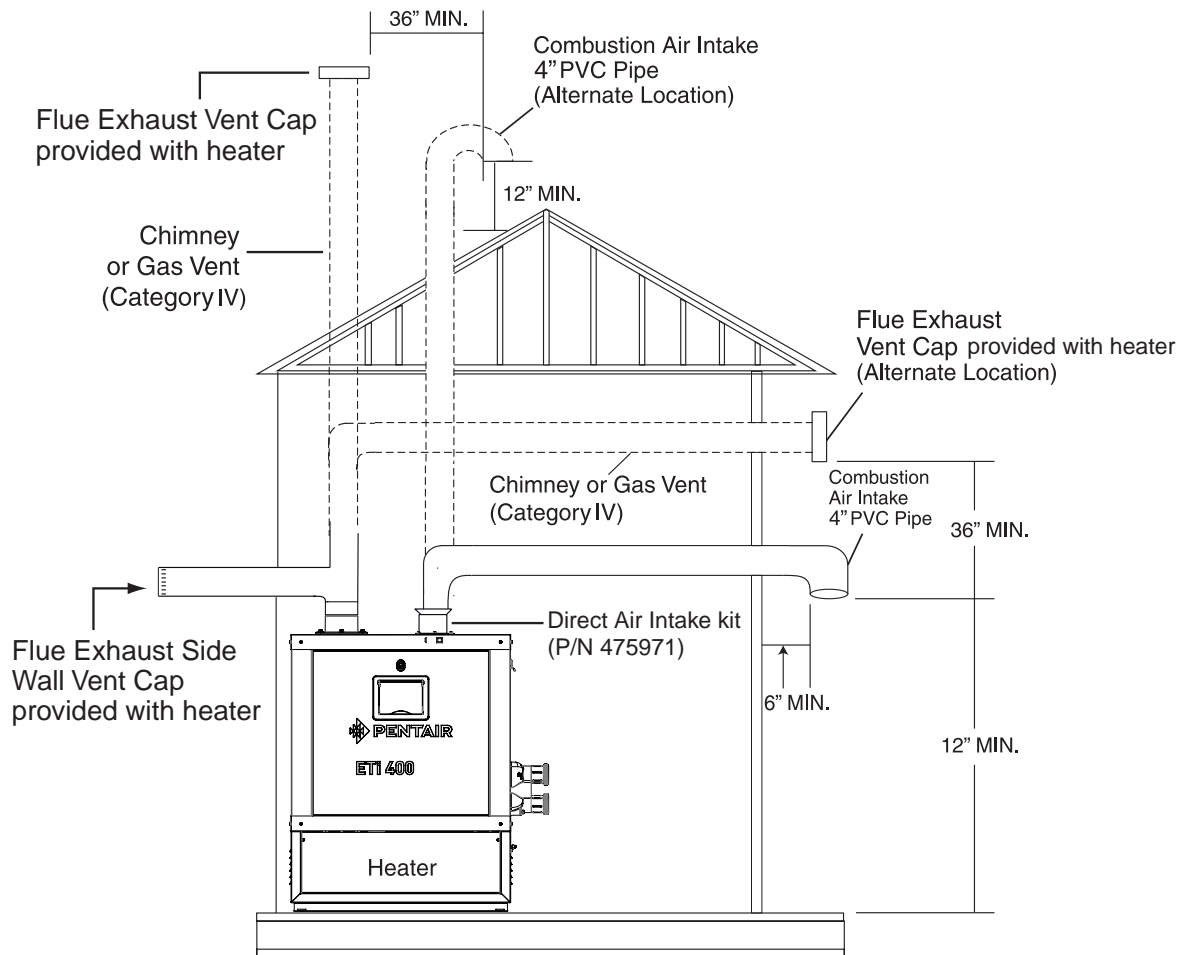
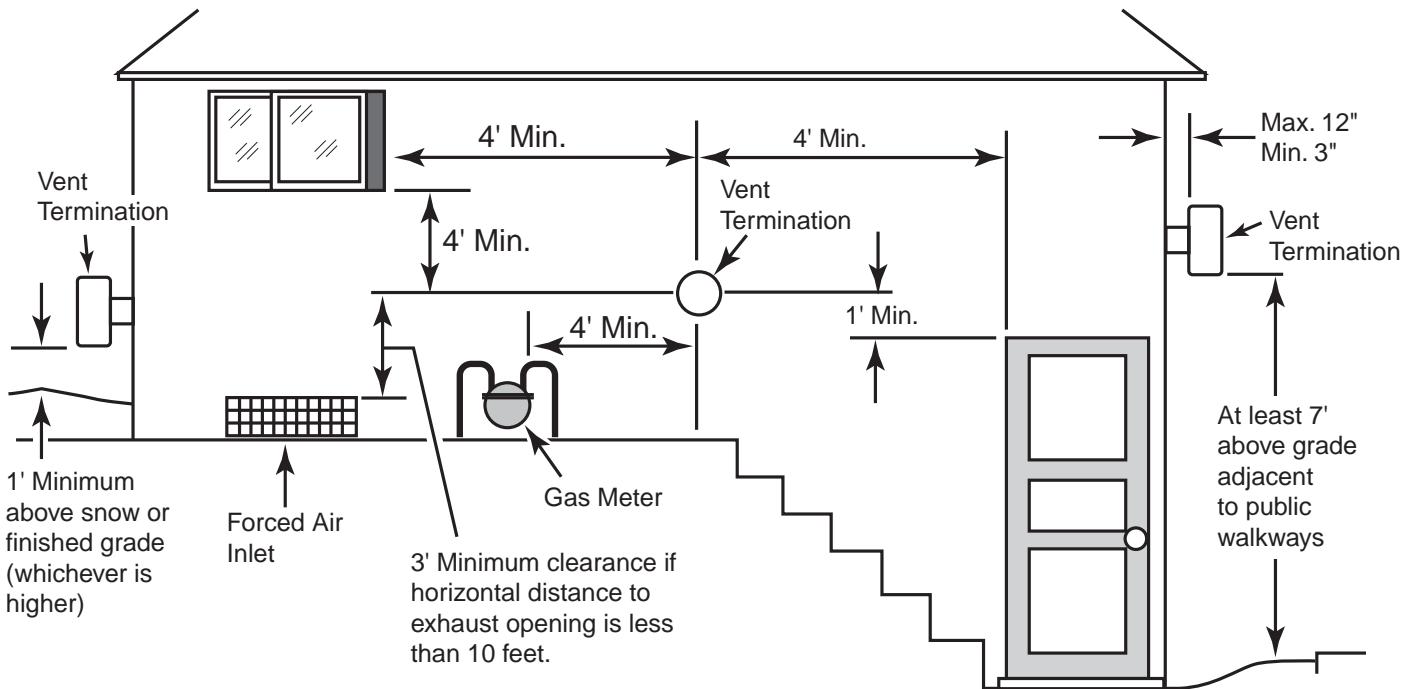
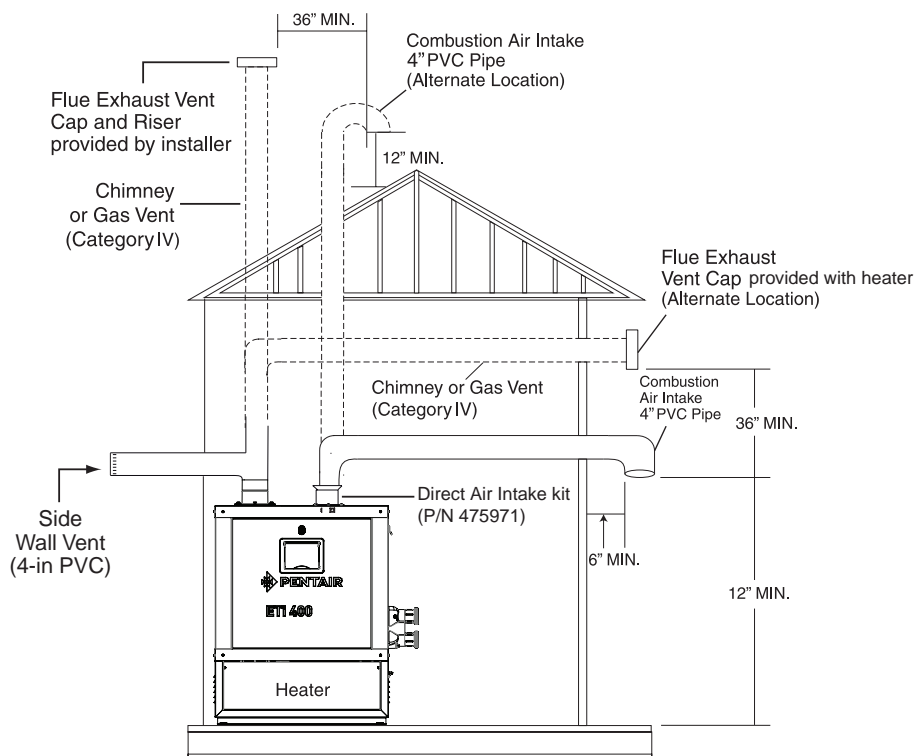

Figure 21.
Figure 24.
Figure 26.
An appliance that operates with a *positive* vent static pressure and with a vent gas temperature that allows excessive condensate production in the vent, see Figure 21 (page 28) and Figure 24, page 36.
The air intake opening MUST be installed at least 1 ft. above the roof line or normal snow levels for free air flow. The Category IV exhaust vent termination cap must have at least 3 ft. (1 m) minimum vertical clearance from air intake duct, see Figure 21.
HORIZONTAL OR VERTICAL VENTING (CATEGORY IV) - POSITIVE PRESSURE (See Figure 28, page 32 and Figure 26, page 34)
3. **Vent Termination:** Vertical (See Figure 24 below and Figure 26 on page 34), for height of vent termination above the roof. Use an *Approved* vent terminal specified by local and national codes and your manufacturer’s instructions. A roof termination must be vertical. In Canada, the Vent Cap location shall have a minimum clearance of 4 feet (1.2M) horizontally from electric meters, gas meters, regulators, and relief openings.
The terminal must be located (U.S. – See Figure 24 on page 32):
The terminal must be located (Canada – See Figure 24 on page 32):
The flue direct vent cap **MUST** be mounted on the exterior of the building. The direct vent cap cannot be installed in a well or below grade. The direct vent cap must be installed at least 1' (0.3 m) above ground level and above normal snow levels, see Figure 24, page 32. The direct vent cap **MUST NOT** be installed with any combustion air inlet directly above a direct vent cap. This vertical spacing would allow the flue products from the direct vent cap to be pulled into the combustion air intake installed above.
It is recommended that the intake vent (see Figure 26) be insulated in colder climates.